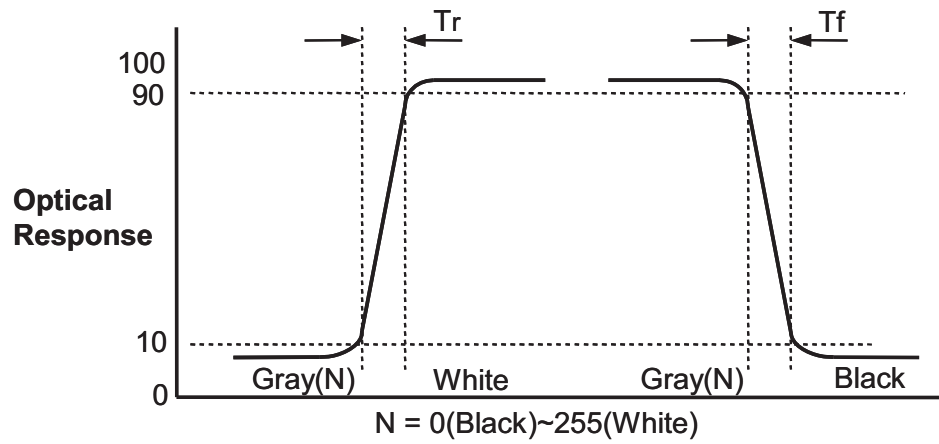

FIG. 3 Response Time
2. Response time is the time required for the display to transit from any gray to white (Rise Time, Tr_R) and from any gray to black (Decay time, Tr_D). For additional information see the FIG. 3.